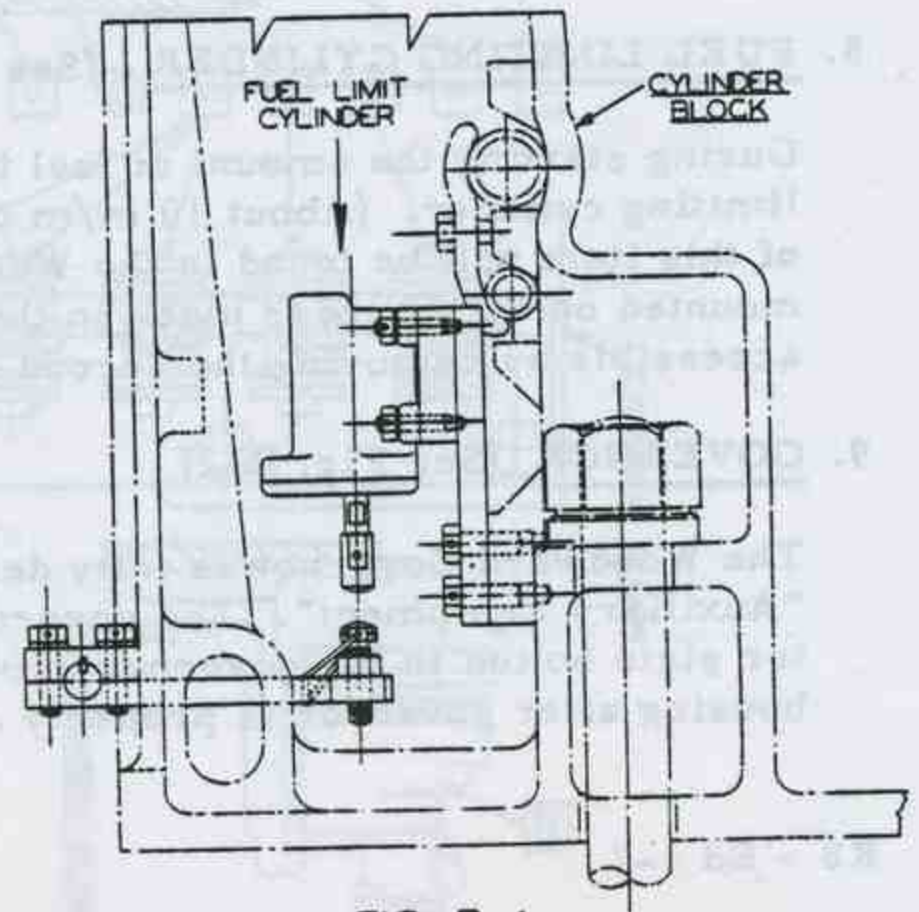

FIG. R-4
8. FUEL LIMITING CYLINDER (See Fig. R-4)